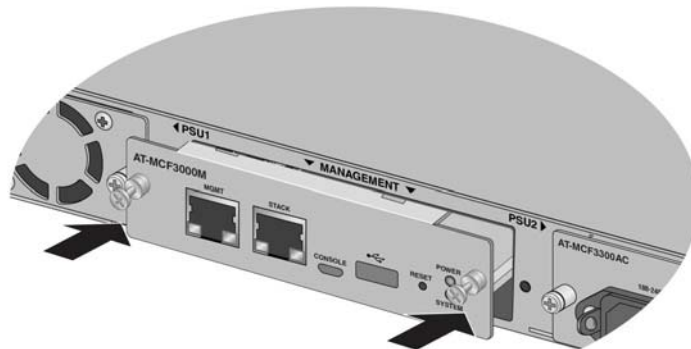

Figure 32. Seating the MCF3000M Management Card on the backplane Connector
5. Gently press on both sides of the faceplate to seat the card on the connector on the backplane inside the chassis. Refer to Figure 32.